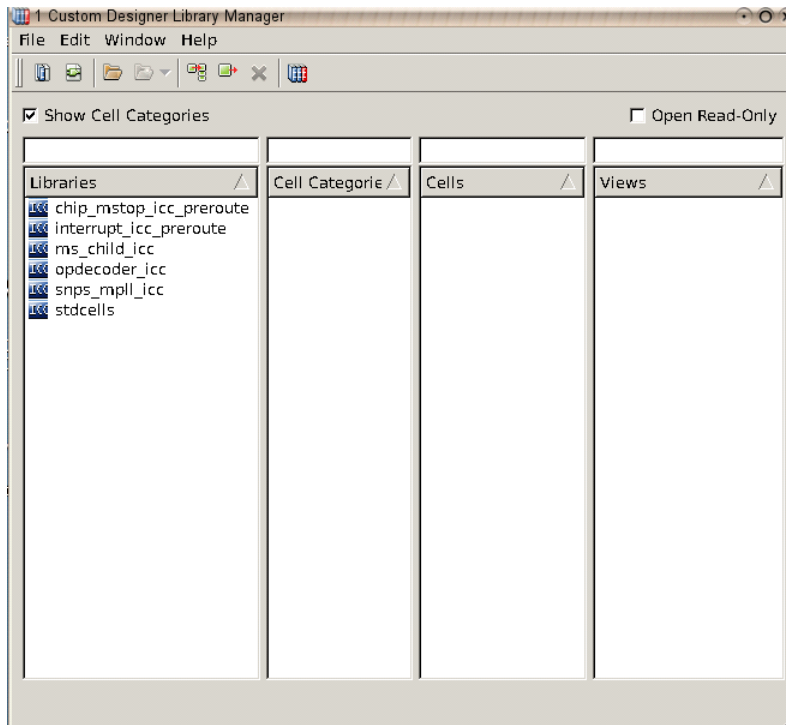

Figure 5 Custom Designer Library Manager Window
7. The **Library Manager** now lists the IC Compiler library `chip_mstop_icc_preroute` and its reference libraries available to capture changes, as shown in Figure 5.